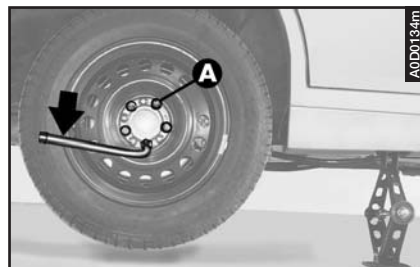

fig. 9
– Completely unscrew the fastening bolts (**A-fig. 9**) and remove the wheel.